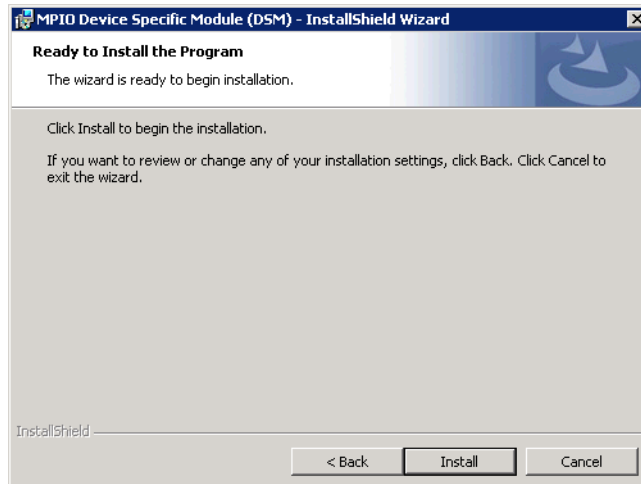

Figure 3-16 MPIO Device Specific Driver - Install begin.
2. Click on **Install** to start with the installation process, as shown in the Figure 3-16.